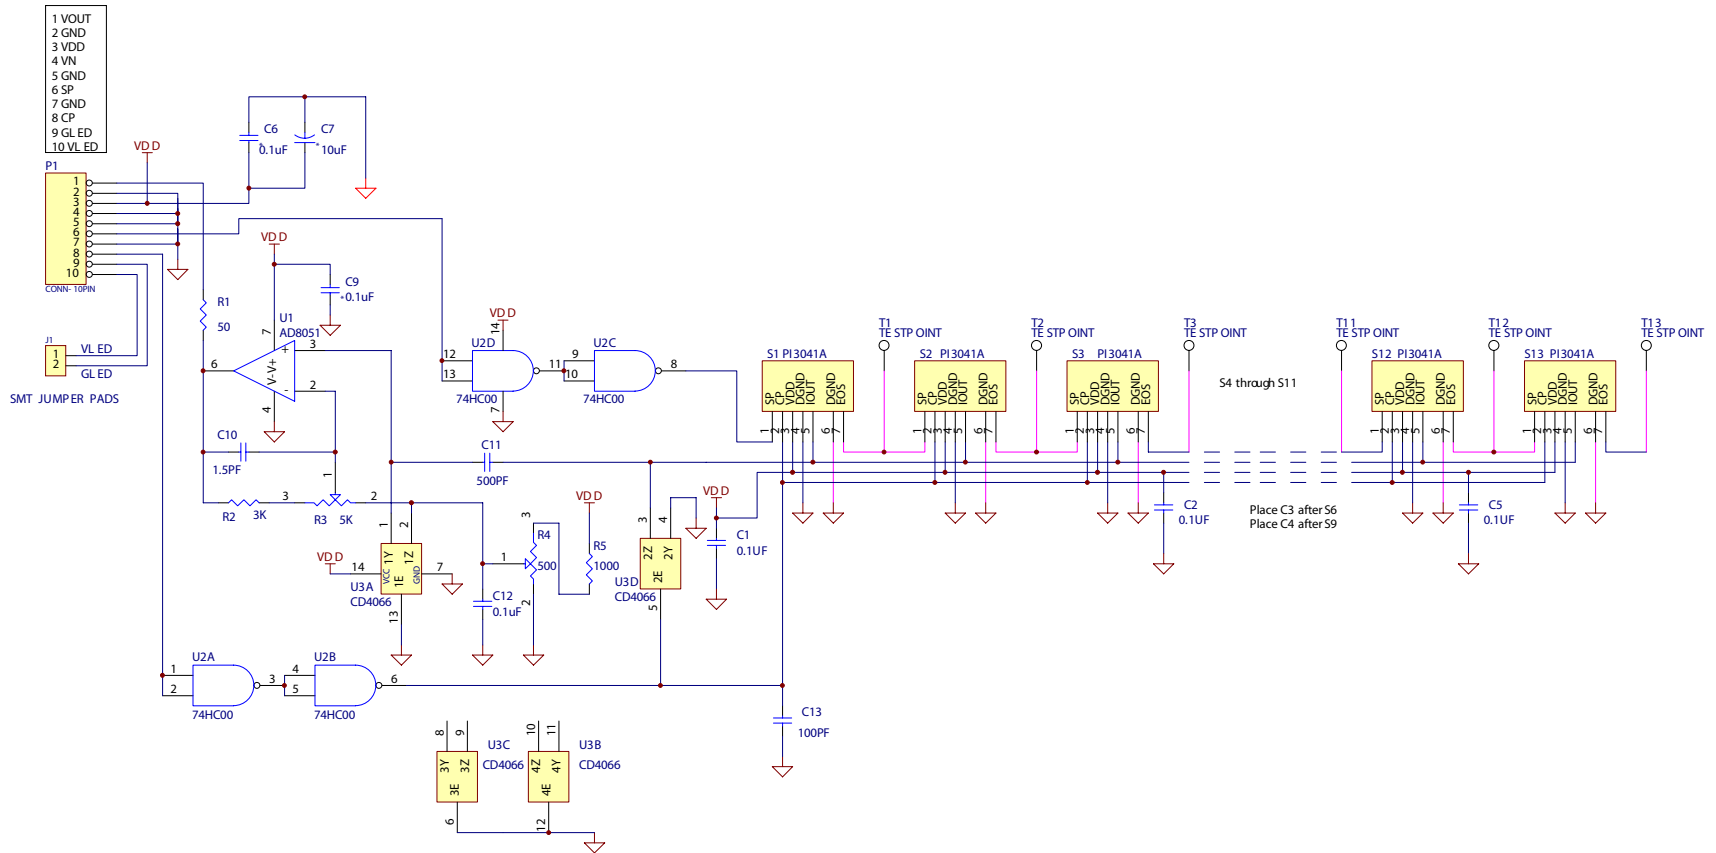

Figure 8. Typical A6 CIS Module Circuit
- (2) Prohibit crossing time is to insure that no two start pulses are locked into the shift register for any single scan time. Since the start pulse is entered into the shift register during its active high level when the CP clock edges falls, the active high of the start pulse is permitted only during one falling, CP, clock edges for any given scan. Otherwise, multiple start pulses will load into the shift register.
- (3) Pixel delay times and settling time depend on the output amplifier, which is employed. These values,  $t_{dl}$  and  $t_{s/h}$ , are measured with the amplifier see in Figure 8. Typical A6 CIS Module Circuit using the PI3041A sensors. Note, the impulse signal current out of the device has pulse width  $\sim 30$  ns. Hence, the faster the amplifier with a faster settling time will yield a signal video pulse with faster rise and settle times.
See Figure 8. Typical A6 CIS Module Circuit using the PI3041A sensors. The circuit is provided as reference to illustrate the interconnection of the PI3041A for a serially cascaded line of image sensors. It is a typical A6 size CIS module produced by PIC. It provides the first time user with additional insight for designing a CIS module and supplements the circuit descriptions given in the section, Signal Conversion Circuit.